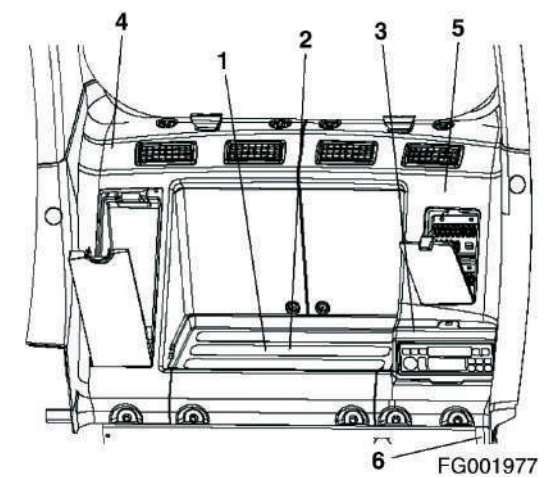

Figure 14
15. Install rear side covers (4 and 5, Figure 14), cassette cover (3, Figure 14) and rear center cover (2, Figure 14), last install rear mat (1, Figure 14).